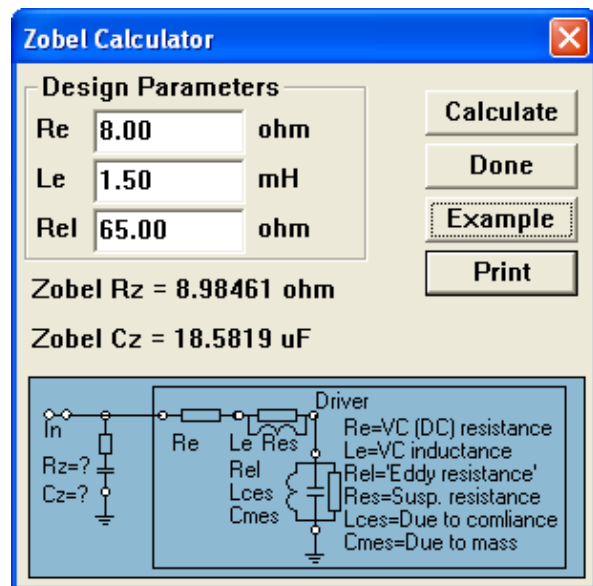

Figure 8.26. Zobel network.
2. Zobel Network (see Fig 8.26)